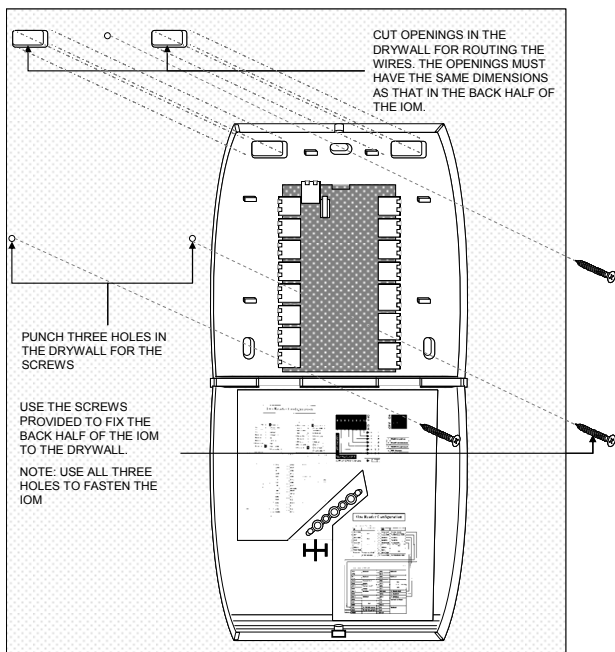

Fig.13. Fixing the IOM on a drywall
2. Use the back half to mark out the position of the IOM on the drywall. Also mark the positions of the mounting screws and the openings for routing the cables. See **Fig.13**.
3. Cut the two cable openings on the drywall using suitable tools. The openings should be aligned with the knock-out holes provided on the back half for routing the cables. Also punch three holes at suitable places in the drywall for the mounting screws. Use the wall anchors for additional holding strength. See **Fig.13**.
4. Ensure that the knock-out holes on the back half have been opened up. (Knock-out holes are also provided on both sides of the IOM enclosure in case field conditions require routing the wires from the sides.) Hold the back half in position on the drywall. Align the mounting screws with their holes and fasten the back half securely on the drywall using the three screws. See **Fig.13**.